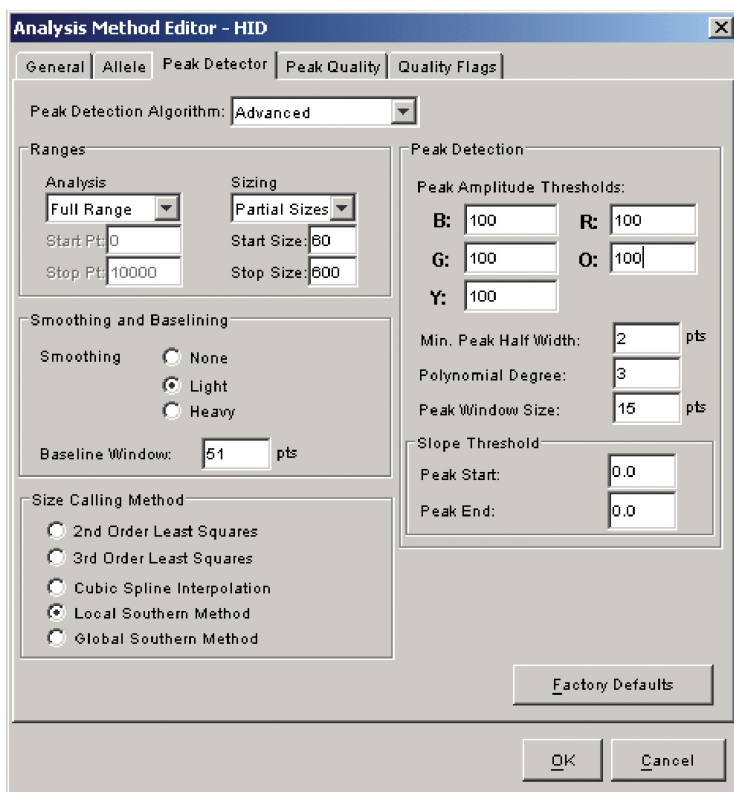

Figure 19. The GeneMapper® ID 'Peak Detector' tab.
10. Select the 'Peak Detector' tab. We recommend the settings shown in Figure 19.